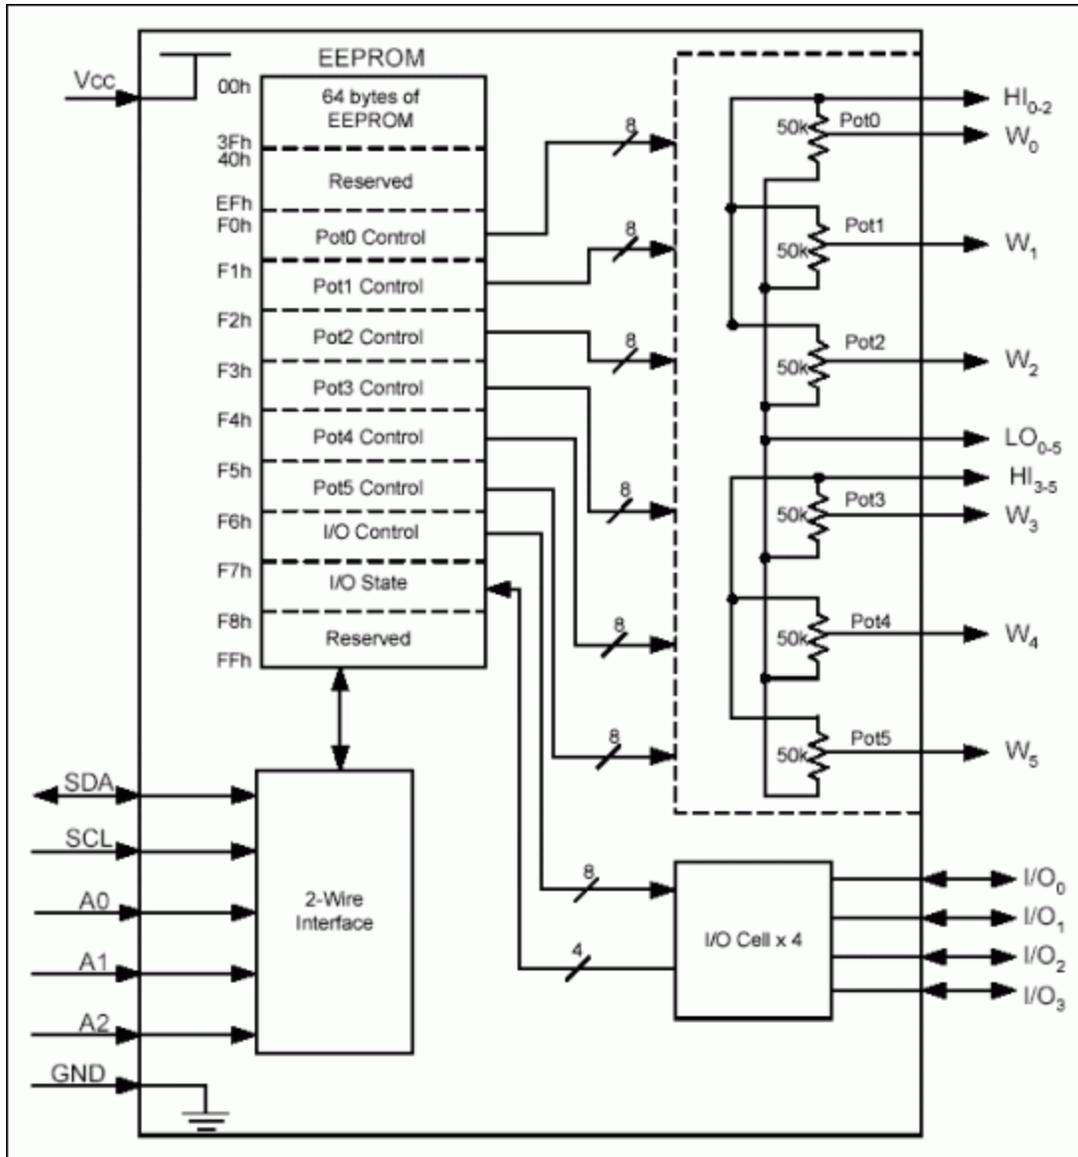

Figure 1. DS3930 block diagram.
The DS3930 contains six 256-position nonvolatile (NV) potentiometers (see **Figure 1**), which makes the DS3930 an ideal device for applications needing multiple voltage references. All six potentiometers share a common low side. The potentiometers are separated into two groups of three 50kΩ potentiometers in parallel. Each group of three shares a common high side. The potentiometer wiper voltage can vary between 0V and  $V_{HI}$  in 256 steps, where  $V_{HI}$  is the voltage on HI0-2 or HI3-5.